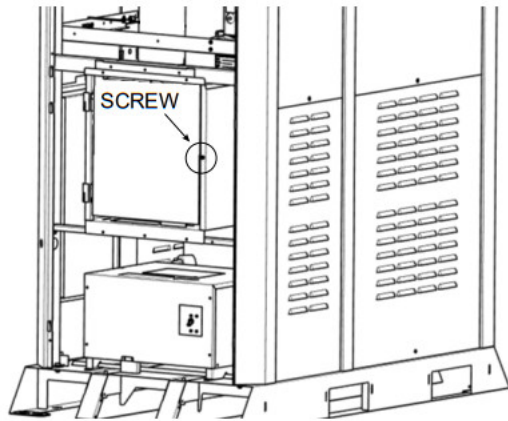

Figure 2. Removing Junction Box Screw
4. Remove one (1) screw to open the Junction Box (J-box) cover. (See Figure 2.)